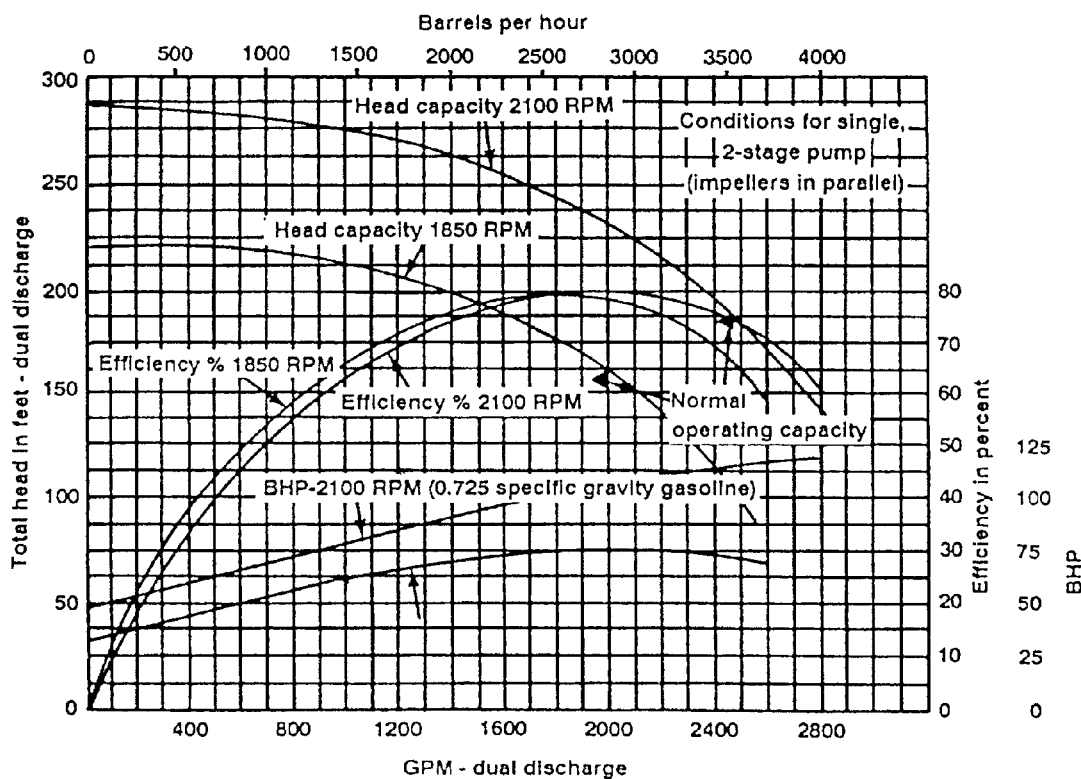

Figure 11-1. Pump graph.
Observe how the pump graph is constructed (Figure 11-1). The graph consists of a coordinate system. It is a uniform scale which means there is an equal space between all units on the graph in both directions. Rate of flow is plotted along the X or horizontal axis increasing from left to right in GPM on the bottom and BPH on top. The remaining variables are plotted along the Y or vertical axis. The RPM curve defines what is referred to as the operating speed of the pump.
**Pump graph application.** A common application of a pump graph (Figure 11-1) is its use in determining the rate of flow, efficiency, and BHP, given the total dynamic head in feet and operating speed of the engine in RPM. Recall the definition of dynamic head--the height to which a pump can push a column of liquid. Rate of flow is the most commonly desired variable on the graph, and can be expressed in either GPM or barrels per hour. At an engine speed of 1,800 RPM and total dynamic head of 160 feet, determine the following: